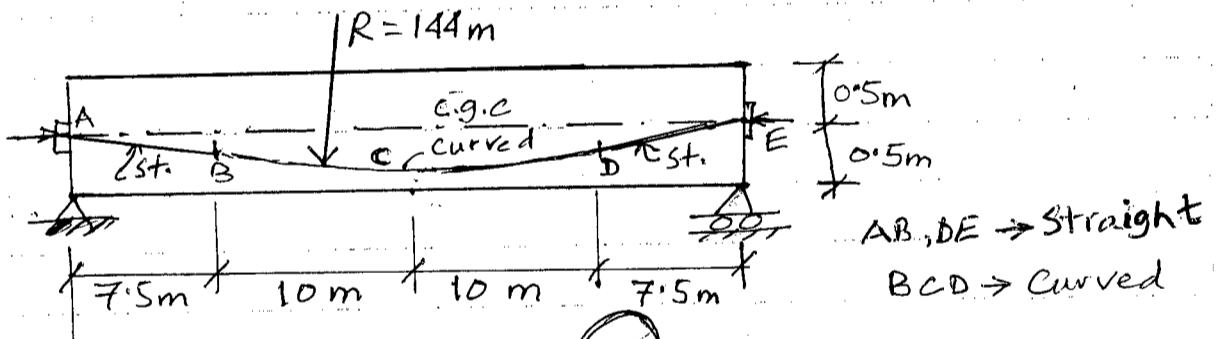

Fig. 2
- (c) A concrete caisson foundation is to be constructed for a bridge pier (Fig. 2). Analyze to determine the wall thickness for the caisson to be self sinking. (8)
2. (a) Mention the advantages and disadvantages of different types of caissons. (8)
- (c) A braced excavation, 18 m × 21 m in plan and 10 m in depth, is planned to be made in a soft to medium stiff clay ($q_u = 60$ kPa) for construction of a basement. It is considered that the bracing system will consist of steel sheet piles along with I-sections as wales and struts. The struts will be placed at three levels from the ground surface (at 2m, 5m and 8m depths) and will be horizontally 3m apart from each other. Analyze and comment on the possibility for failure by bottom heaving. (10)
(b) A simple beam with cable layout is shown in Fig. 2. Compute the percentage loss of prestress due to friction at midspan if it is tensioned from both ends. (13)